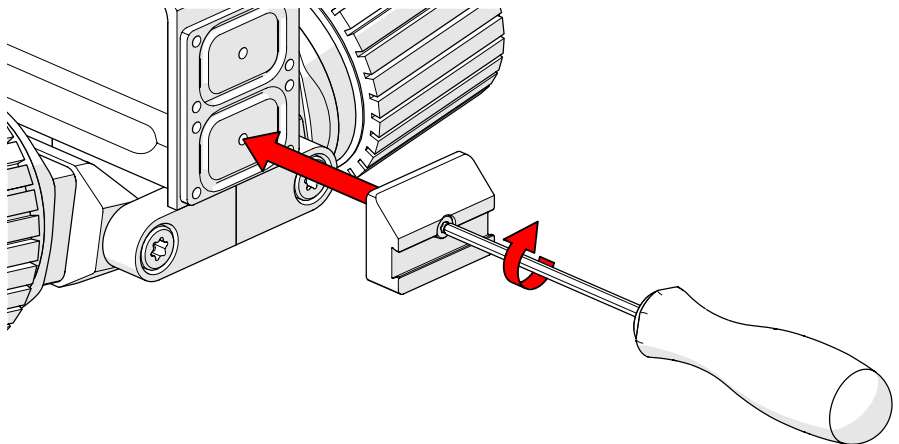

Fig. 70 - Attach the crawler dovetail adapter
1. Attach the crawler dovetail adapter to the front of the **TERAX** using the 3 mm hex driver (*Fig. 70*).